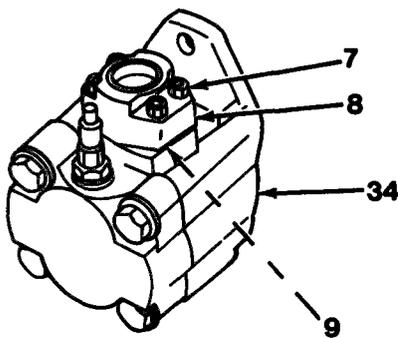

Figure 16-5
15. Install O-ring (9) and split flange adapter (8) on motor (34) with four allen screws (7, Figure 16-5).